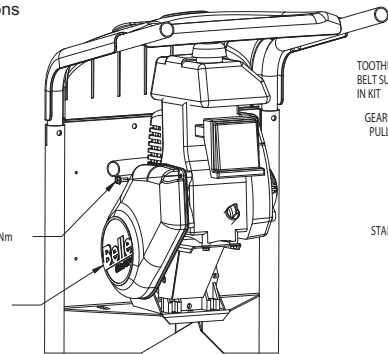

FIG 4. FITTING BELT GUARD AND SECURING WITH M6 BOLT
10. Check that the belt runs inline and then fit the belt guard by locating the tab in the guard and then clipping the guard to the back plate. Secure with the M6 bolt provided and torque to 16Nm. See fig.4 for details.